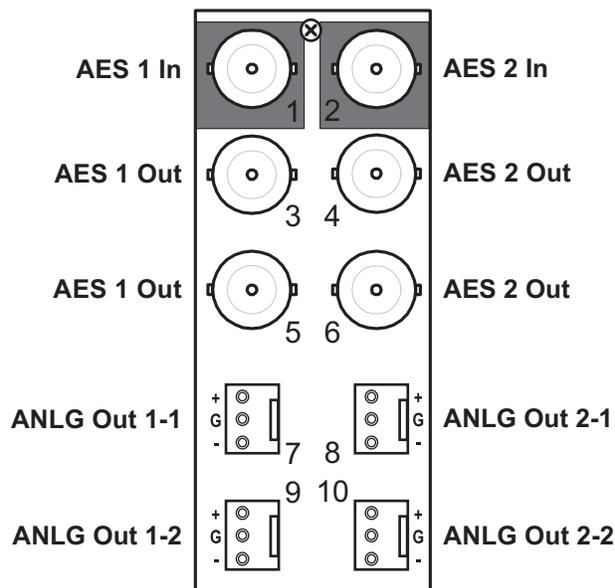

Figure 5 Cabling for the 8310AR-036 and 8320AR-036
Refer to **Figure 5** for cabling designations.
- 8320AR-036 — Each module occupies two slots and accommodates one card. This rear module provides two AES inputs, four AES outputs, and two stereo pair outputs. Refer to **Figure 5**.